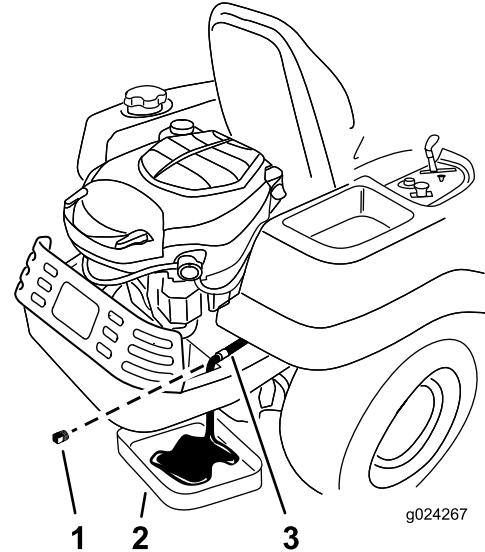

Figure 30
4. Locate the oil-drain hose on the left side of the engine. (Figure 30).
6. Place a drain pan underneath the machine, directly below the oil-drain hose as shown in Figure 30.
7. Using 2 wrenches (one to hold the oil-drain hose and one to loosen the plug), remove the oil-drain plug (Figure 30).
17. Wipe up any excess oil (Figure 30).